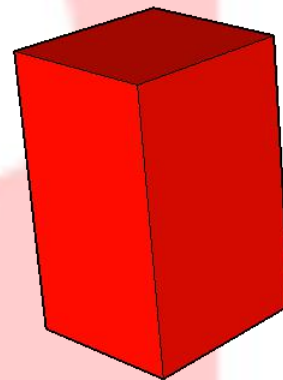

Figure 4B: Red Block
- Team prepares 3 Blocks each of Red, Blue, Green and Yellow by covering the Blocks with the respective colored chart paper. A red Block is shown as an example in Figure 4B.